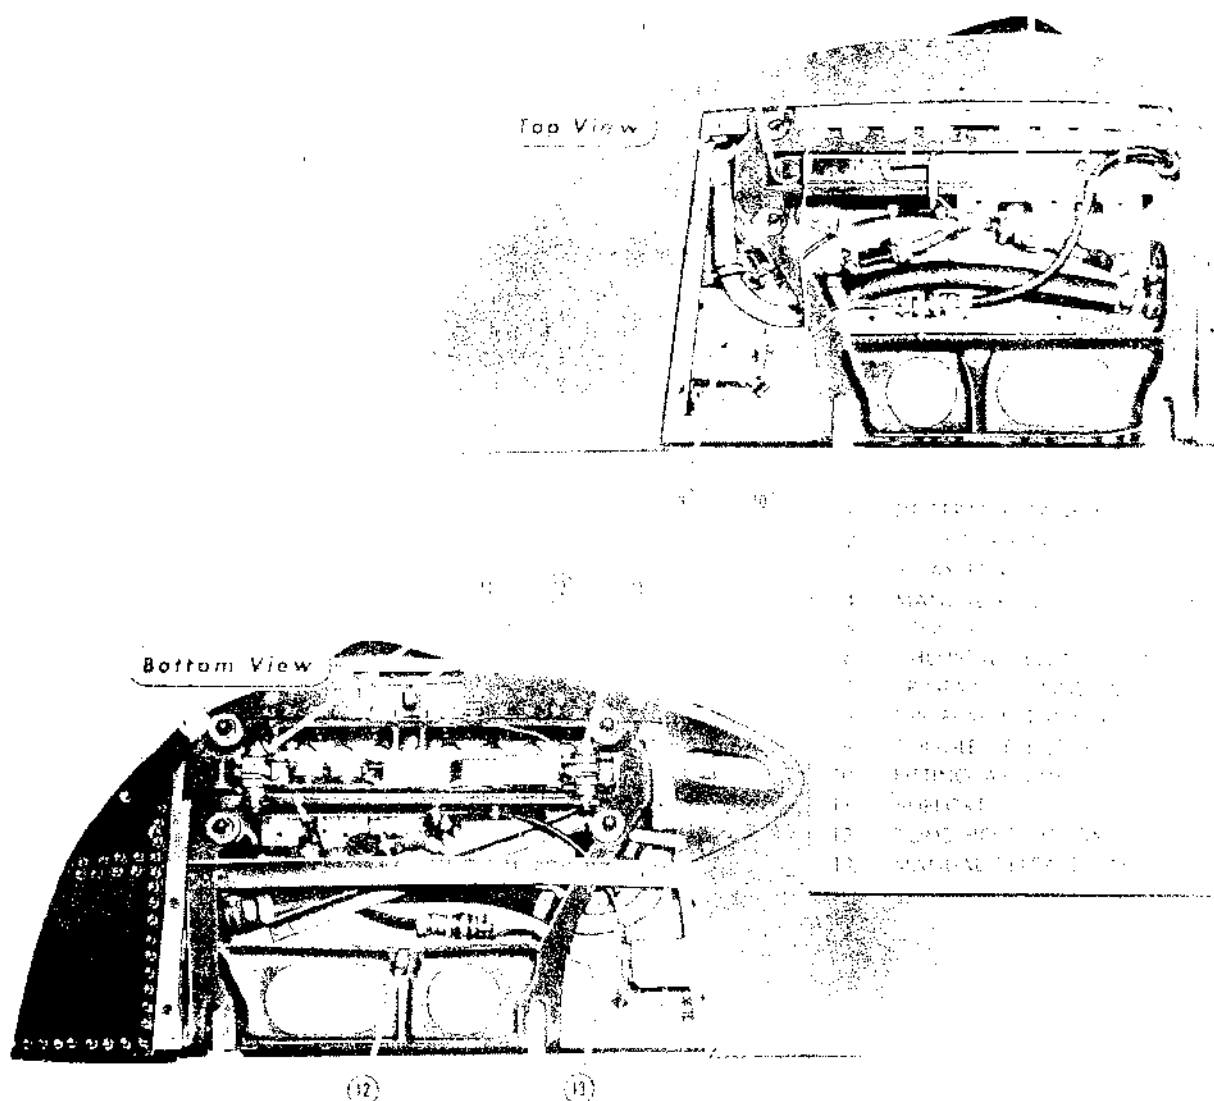

Figure 233 — Bomb and Fuel Tank Carrying Equipment, Later Airplanes
(2) S-1 BOMB SHACKLE. (See figure 233.)